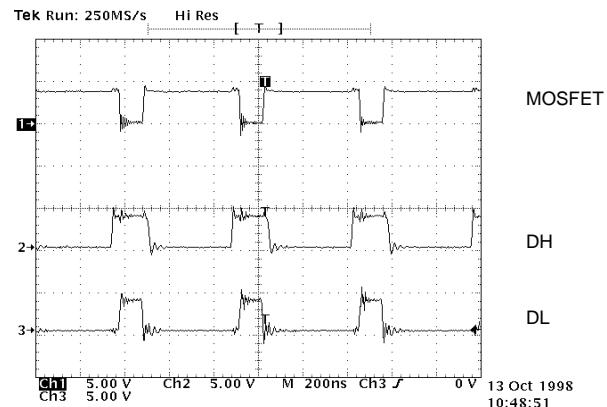

FIGURE 4. Boost DB PWM Mode: $V_{IN} = 3$ V, $V_{OUT} = 3.6$ V,
5. To test your DB in PSM, adjust the load to 20 mA. Then change Jumper 1 setting to PSM. Notice the reduction of the input current. With the same probe setup mentioned above, the waveform for buck and boost DB should appear approximately as shown in Figure 4 and 5, respectively.